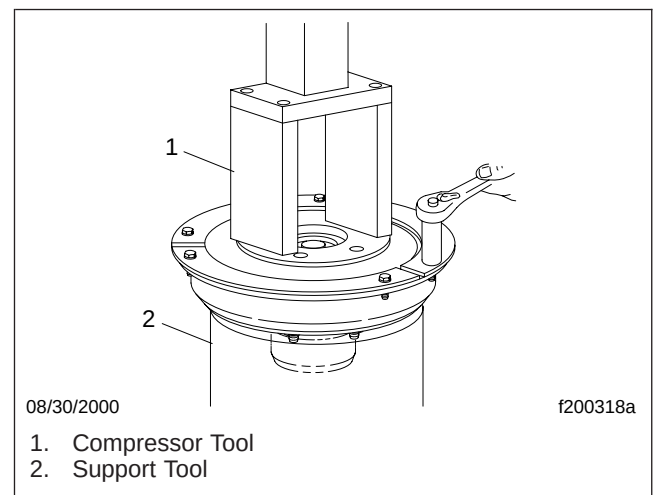

Fig. 2, Caging the Engagement Spring and Removing the Lining Retaining Plates
If using the special support and compressor tools, place the fan clutch in a press to cage the engagement spring. See Fig. 2.
4. Remove the lining retaining plates and the lining. See Fig. 2 and Fig. 3.